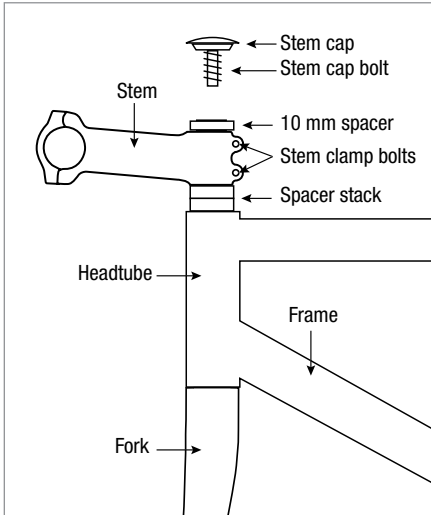

Figure 11
- Re-Install the fork, spacers, stem, and all headset components into the headtube (Fig 11).